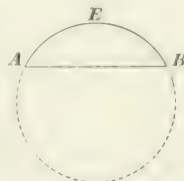

FIG. 42.
71. A **chord** is a straight line joining any two points in a circumference; or it is a straight line joining the extremities of an arc; thus, the straight line AB , Fig. 42, is a chord of the circle whose corresponding arc is AEB .